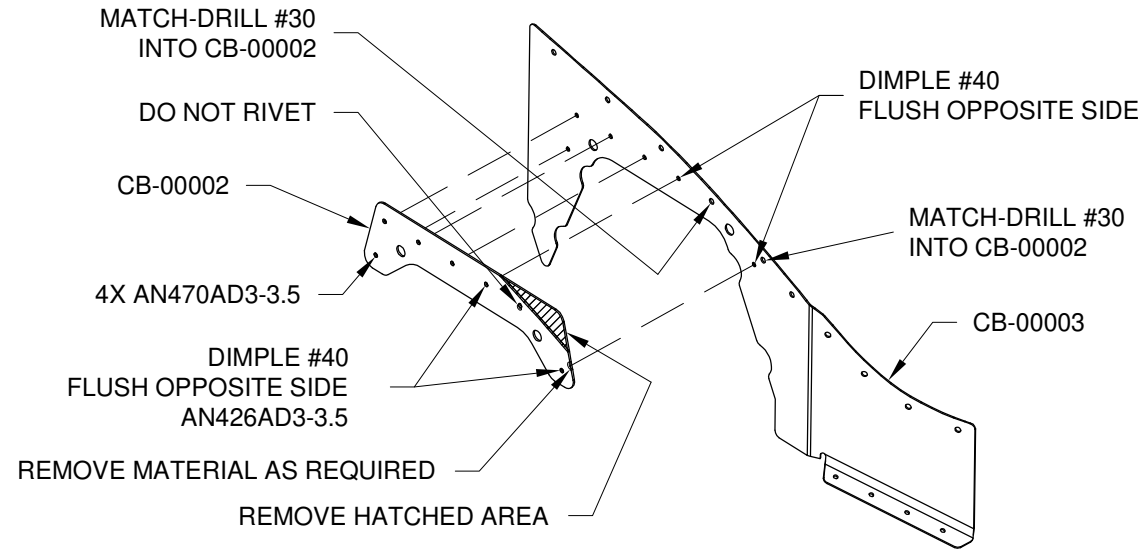

FIGURE 1: CYLINDER 1 BAFFLE
Step 3: Dimple the CB-00003 Cylinder 1 Baffle and CB-00001 Cylinder 2 Baffle as shown in Figure 1 and Figure 2.
Step 4: Cleco one forward doubler to each baffle as shown in Figures 1, 2, 3, and 4.
Step 5: Match-Drill #30 the two holes in the CB-00003 Cylinder 1 Baffle into its forward doubler as shown in Figure 1.
Enlarge the partial hole in the forward doubler to approximately $\text{Ø}3/16$ in. [$\text{Ø}4.8$ mm] with a round file. See Figure 1.
Step 8: Rivet the forward doublers to the baffles as shown in Figures 1, 2, 3, and 4.